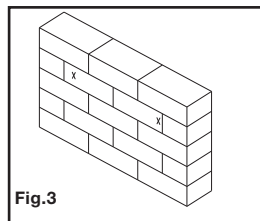
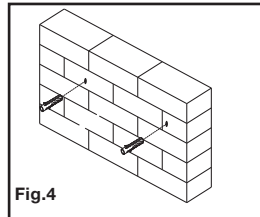

Fig.3
Fig.4
2. Drill two 10 mm (3/8") holes in the wall using the template as a guide. Remove any excess dust from the holes (see Fig. 3).
3. Remove the template from the wall and insert a concrete anchor (C) into each hole so that it is flush with the concrete surface. A hammer can be used to lightly tap the anchors into place if necessary.
4. Place the wall plate against the wall over the inserted anchors and attach it using the lag bolts (A) and lag bolt washers (B) provided (see Fig. 4). **Do not over-tighten these bolts and do not release the wall plate until both bolts are in place.** Ensure that the wall plate remains level after both bolts are secured.